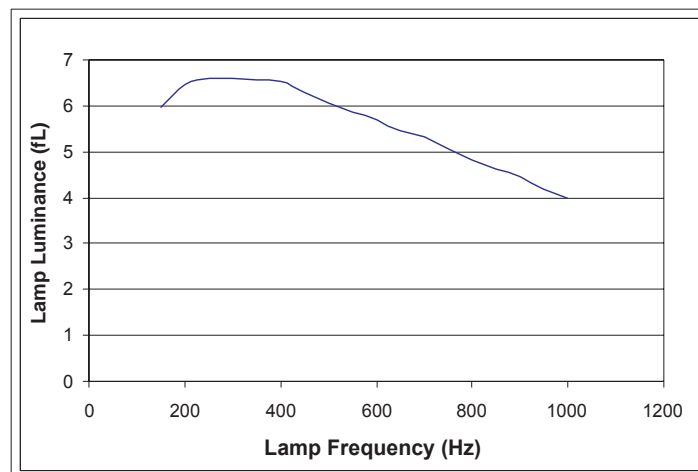

Figure 2: Luminance vs. Lamp Frequency
The selection of the CLF value can also affect the brightness of the EL lamp because of its control of the lamp frequency (LF). Although input voltage and lamp size can change EL lamp frequency as well, LF mainly depends on the CLF value selected or the frequency of the input clock signal to CLF. Figure 2 shows typical brightness of a D381A circuit with respect to lamp frequency. In this example, the inductor and CHF values were kept constant while varying LF.